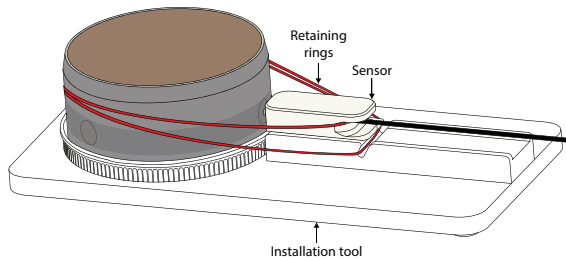

Figure 19 Sensor secured to sample ring on Installation tool
9. Use a second retaining ring to secure the sensor by placing the retaining ring around the sample ring and positioning it in the upper notch of the sensor hull (Figure 19).